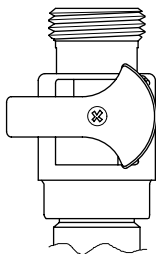

Figure 1
- Ensure the Probe Valve on the Perlick Smart Coupler is in closed position. *See figure 1.* Ensure the Beer Pump Flow Reversal/Dispense handle is in the dispense position. Adjust the **Secondary Air/ CO2 regulator** located on the beer pump panel to a minimum operating pressure of 10 psig.
- Close probe valve on Perlick Smart Coupler. (*See figure 1*) and disconnect coupler from regulated water source.